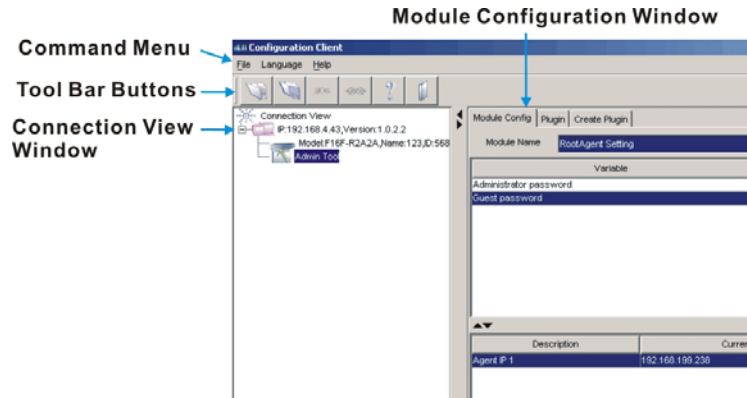

Figure 4-12: Major Elements in Configuration Client User Interface
The Configuration Client user interface contains four (4) major elements: Tool Bar Buttons, Connection View Window, and Module Configuration Window. They are shown in *Figure 4-12*.